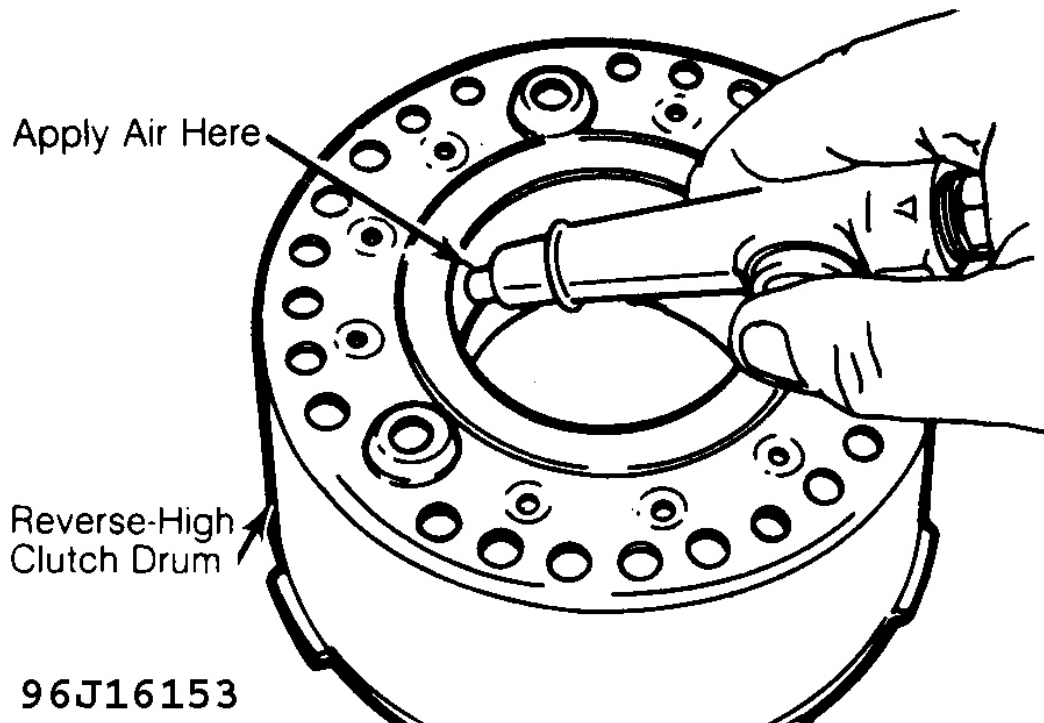

Fig. 22: Using Compressed Air to Remove Reverse-High Clutch Piston
2. Remove spring retainer and return springs. Turn clutch body over and carefully force out piston with compressed air. See **Fig. 22** . Remove hydraulic pump and "O" rings from piston and clutch body.